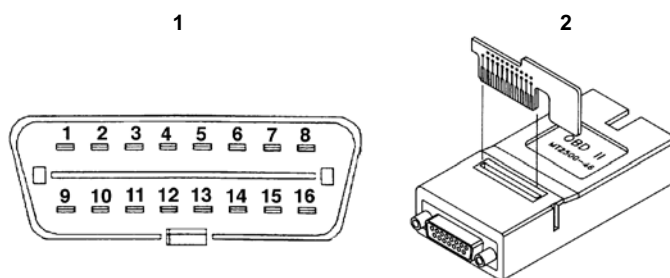

Figure 15-14 OBD-II adapter and Personality Key™
- “Connections Using the OBD-II Adapter” on page 182 (Figure 15-14)